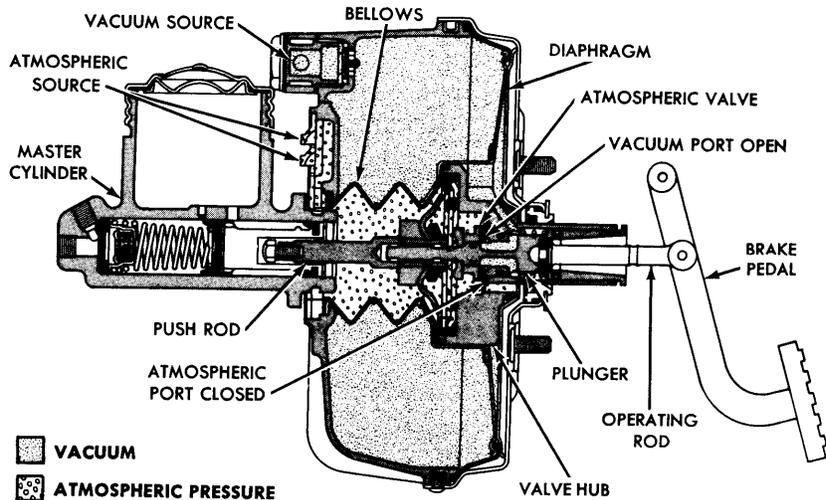

FIG. 3—Booster in Released Position
leased from the valve operating rod and plunger assembly, the plunger return spring moves the plunger away from the atmospheric valve allowing the valve to seat against the hub (Fig. 3). This seating of the valve closes off the bellows chamber from the rear side of the diaphragm. At the same time, the rearward movement of the plunger opens the porting from the vacuum chamber and draws out the air from the rear side of the power diaphragm. With vacuum on both sides of the diaphragm,
1. Open the hood, and disconnect the wires from the stop light switch at the brake master cylinder (Fig. 3).